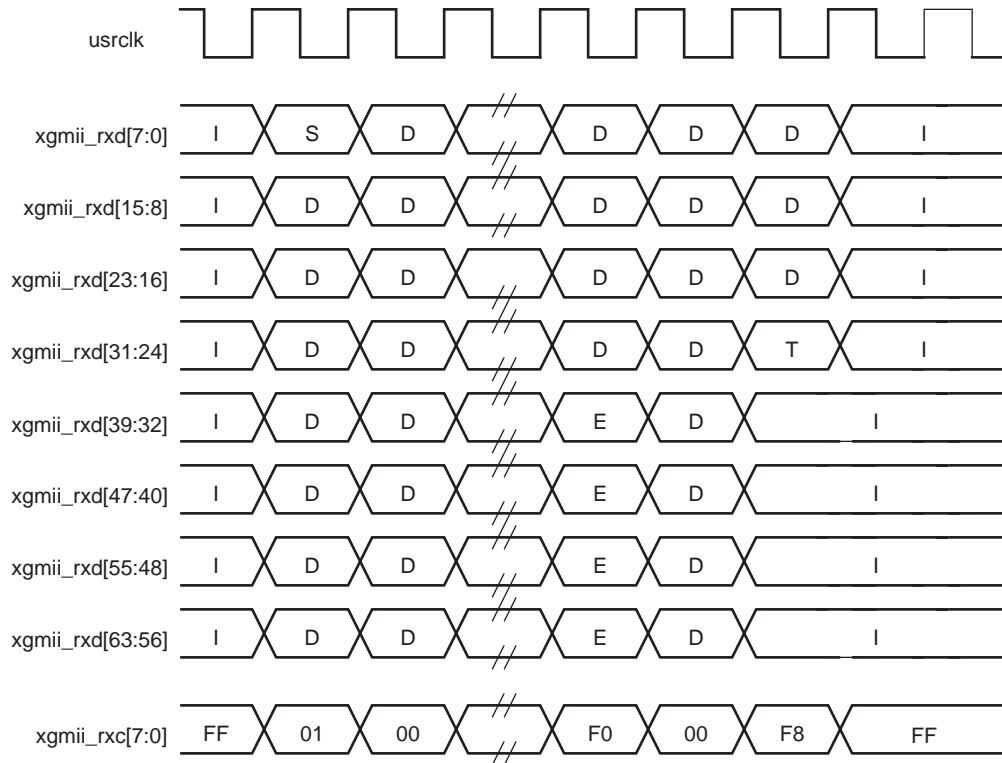

Figure 3-6: Frame Reception Across the Internal 64-bit Client Interface
The timing of a normal inbound frame transfer is shown in Figure 3-6. As in the transmit case, the frame is delimited by a Start character (S) and by a Terminate character (T). The Start character in this implementation can occur in either lane 0 or in lane 4. The Terminate character, T, can occur in any lane.